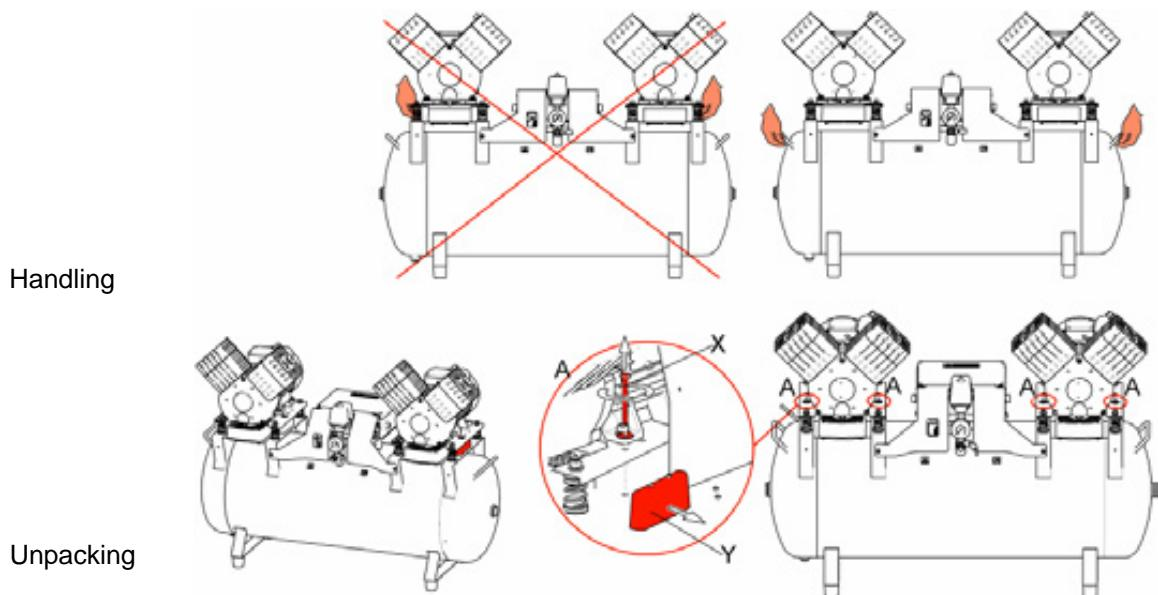

Fig.9 Unpacking
**Dental compressor in box DK50 2V/110S, DK50 2x2V/110S (Fig.7, Fig.9)**
#### Dental compressor in box DK50 2V/110S/M, DK50 2x2V/110S/M (Fig.7, Fig.9)
#### Dental compressor DK50 2V/110/M, DK50 2x2V/110/M, DK50 2V/110, DK50 2x2V/110 which was not delivered together with the case S110 (Fig.7, Fig.9)